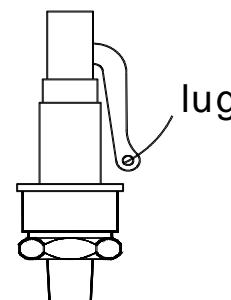

Fig2
- 2 An ordinary lift safety valve connected to the jacket is installed at the top of the sterilizer. It cannot open to release overpressure steam until the steam in jacket overpasses set pressure of safety valve. When steam pressure falls to the normal value, it automatically closes. The set pressure for safety valve is $0.165\text{ MPa} \sim 0.17\text{ MPa}$ (See Fig2)